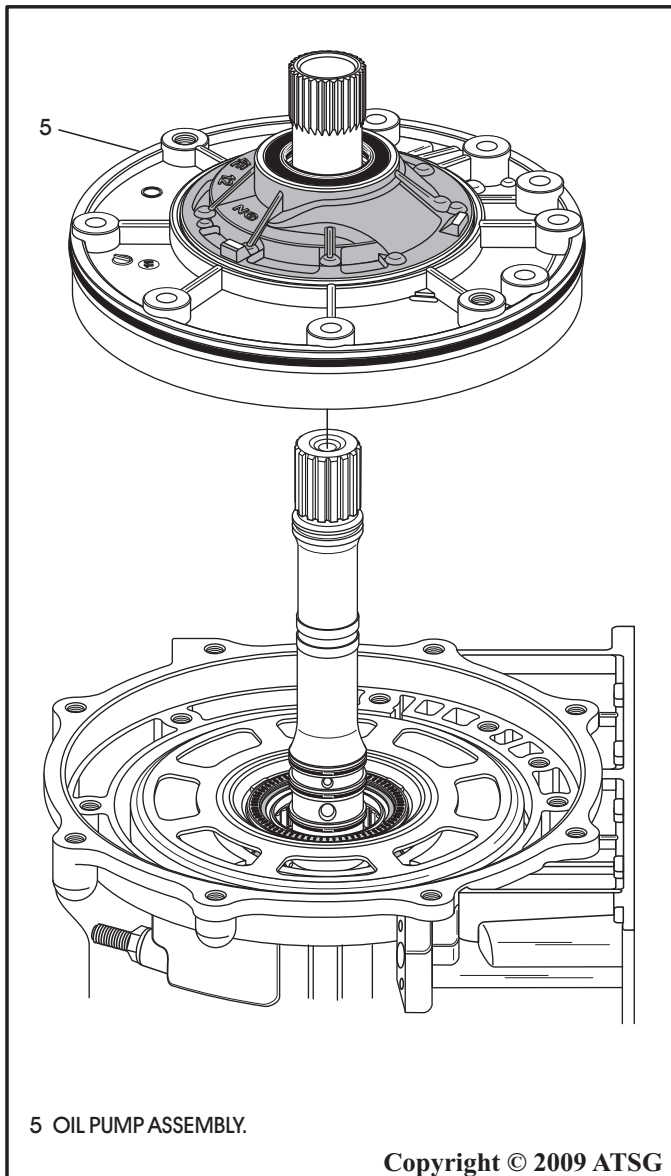

Figure 44
18. Remove the oil pump assembly from the case, as shown in Figure 44.